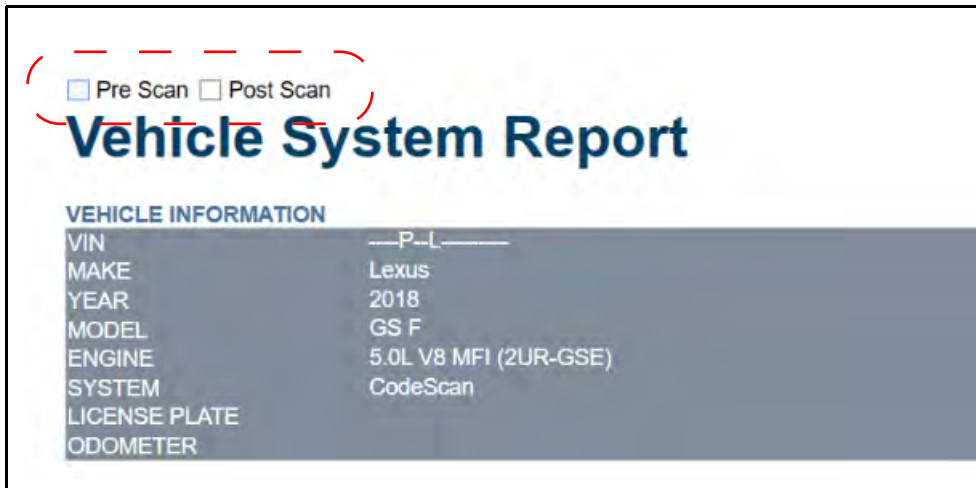

Figure 16-8
1. Double-click the code scan .XML file from the file list to open the Vehicle System Report (Figure 16-8) in the Code Scan Viewer.
2. Hover the cursor over the area shown in Figure 16-8, and select the desired option to add to the report header.